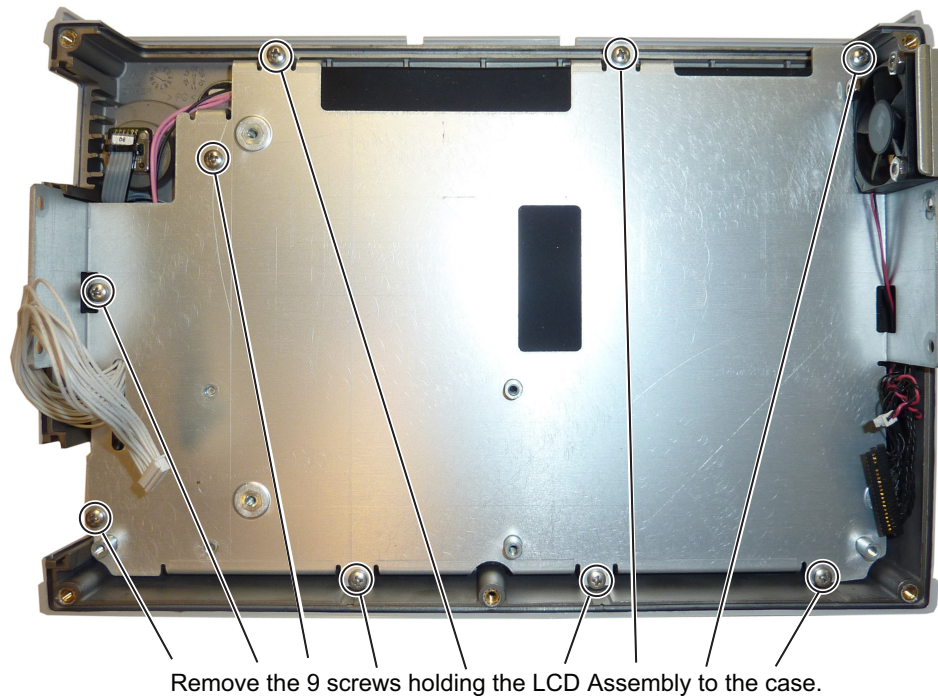

Figure 6-11. Removing the LCD Assembly
3. Remove the 9 screws connecting the LCD assembly to the front half of the case, see Figure 6-11.